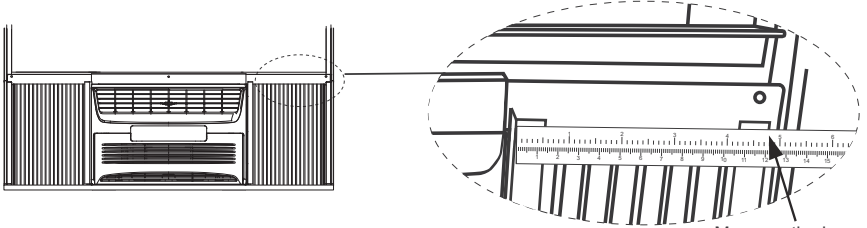
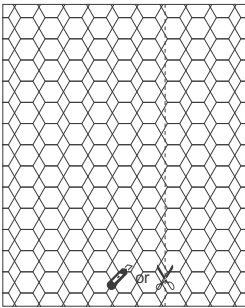
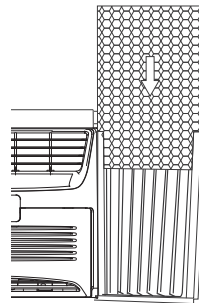

FIG. 10
FIG. 11
FIG. 12
- 7** Measure the width of the inner side curtain with the provided ruler, as shown (FIG. 10). Mark a line on the patterned side of the provided insulation panel according to the measured width, then cut out the insulation panel along the line, as shown (FIG. 11). Place the patterned side of the insulation panel to face inside your room, then slide the insulation panel into the frame until the panel goes into the side curtain frame completely. If the insulation panel does not slide in the frame smoothly, trim the insulation panel then try again, until the insulation panel fits the frame, as shown (FIG. 12). Repeat these instructions for the other side.